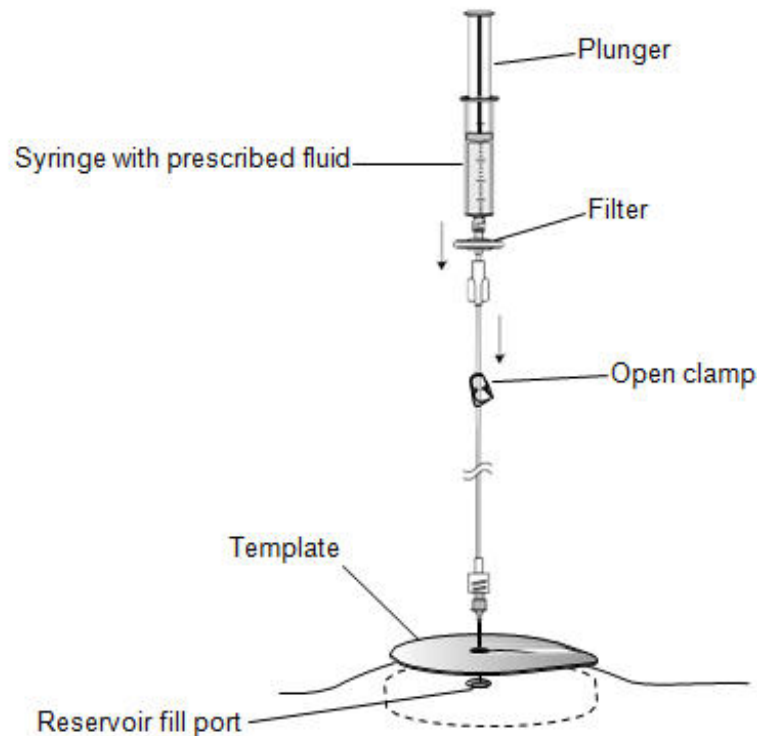

Figure 5. Open the clamp and inject into the pump reservoir.
6. Attach the syringe with the prescribed fluid and filter to the extension set (Figure 5).
9. Slowly depress the plunger on the syringe to inject the prescribed fluid into the pump reservoir. While injecting the prescribed fluid, verify that the needle remains properly located within the reservoir (Figure 5).
- c. Purge the air from the second syringe, and attach the second syringe to the filter (Figure 5).